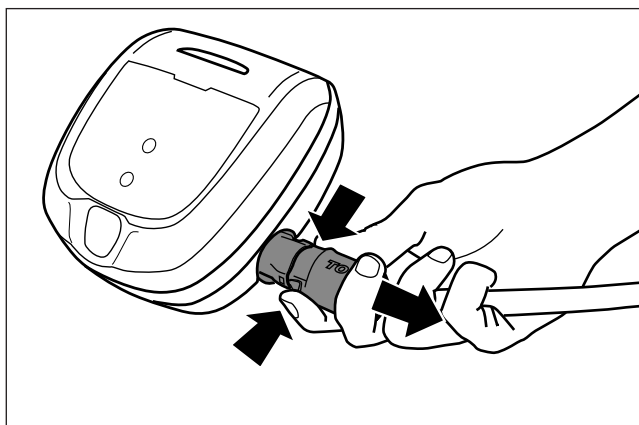

Figure 9. Unplug
3. Unplug power to the cleaner at the control box (Figure 9).